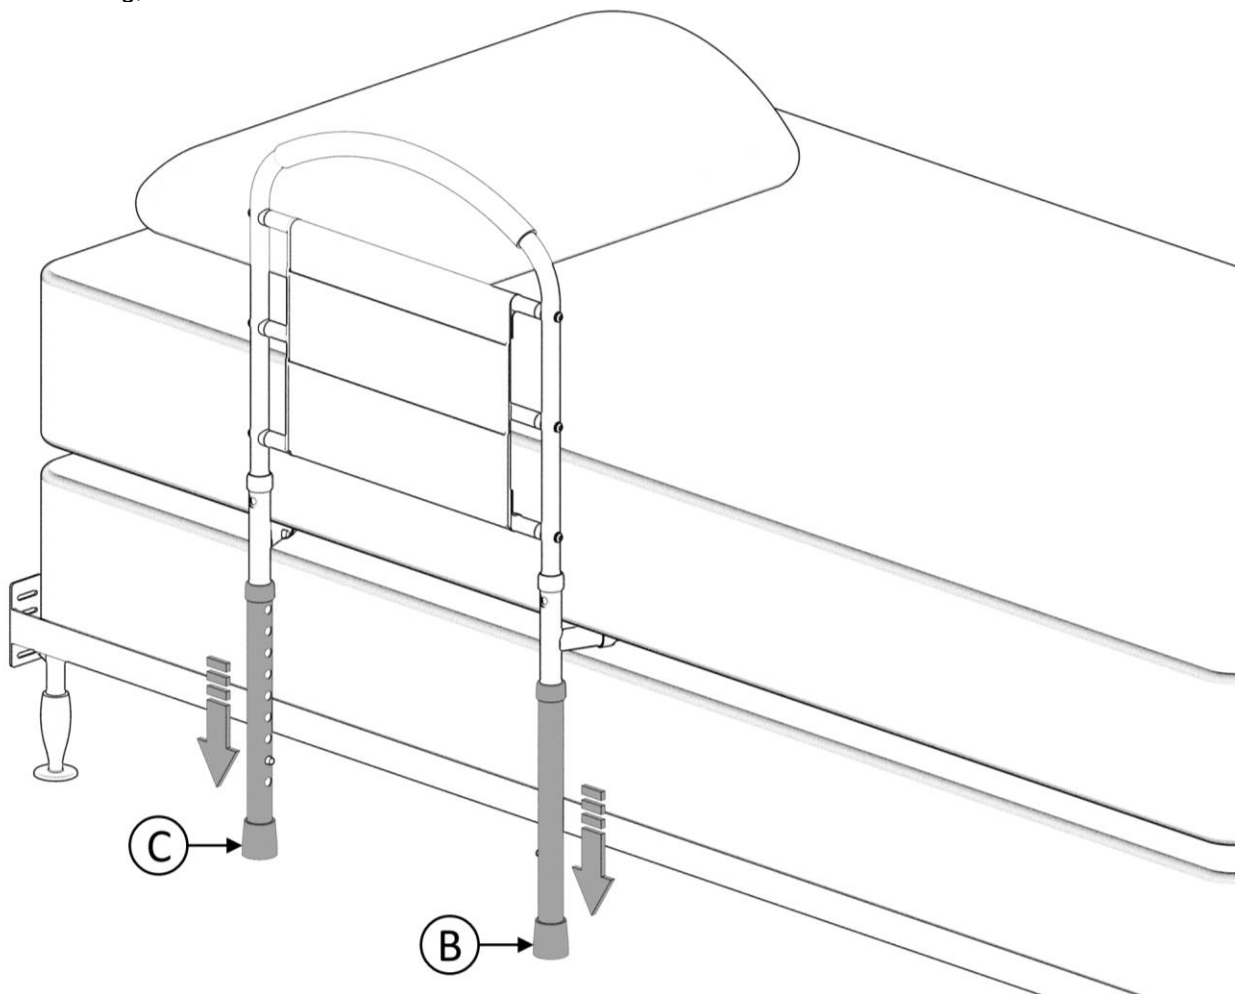

FIGURE 4
4. Evenly adjust Legs **B** and **C** so that they are pressed firmly against the floor with the Spring Pins engaging one of the holes in each leg, as shown in *FIGURE 4*.